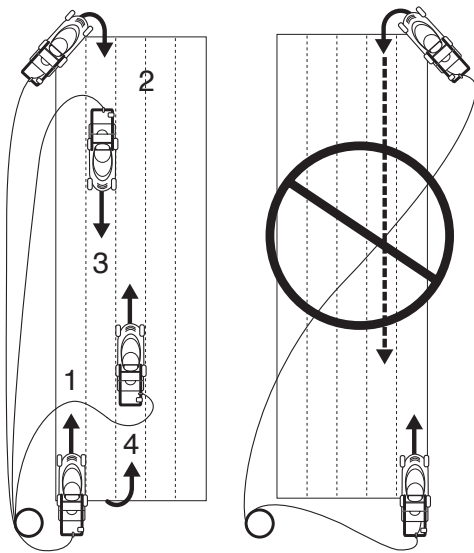

Figure 13
- A. Proceed to cut as shown in Fig 13, working from position 1 towards position 2.
- D. Proceed as shown in Figure 13, always working away from the electric extension cable.